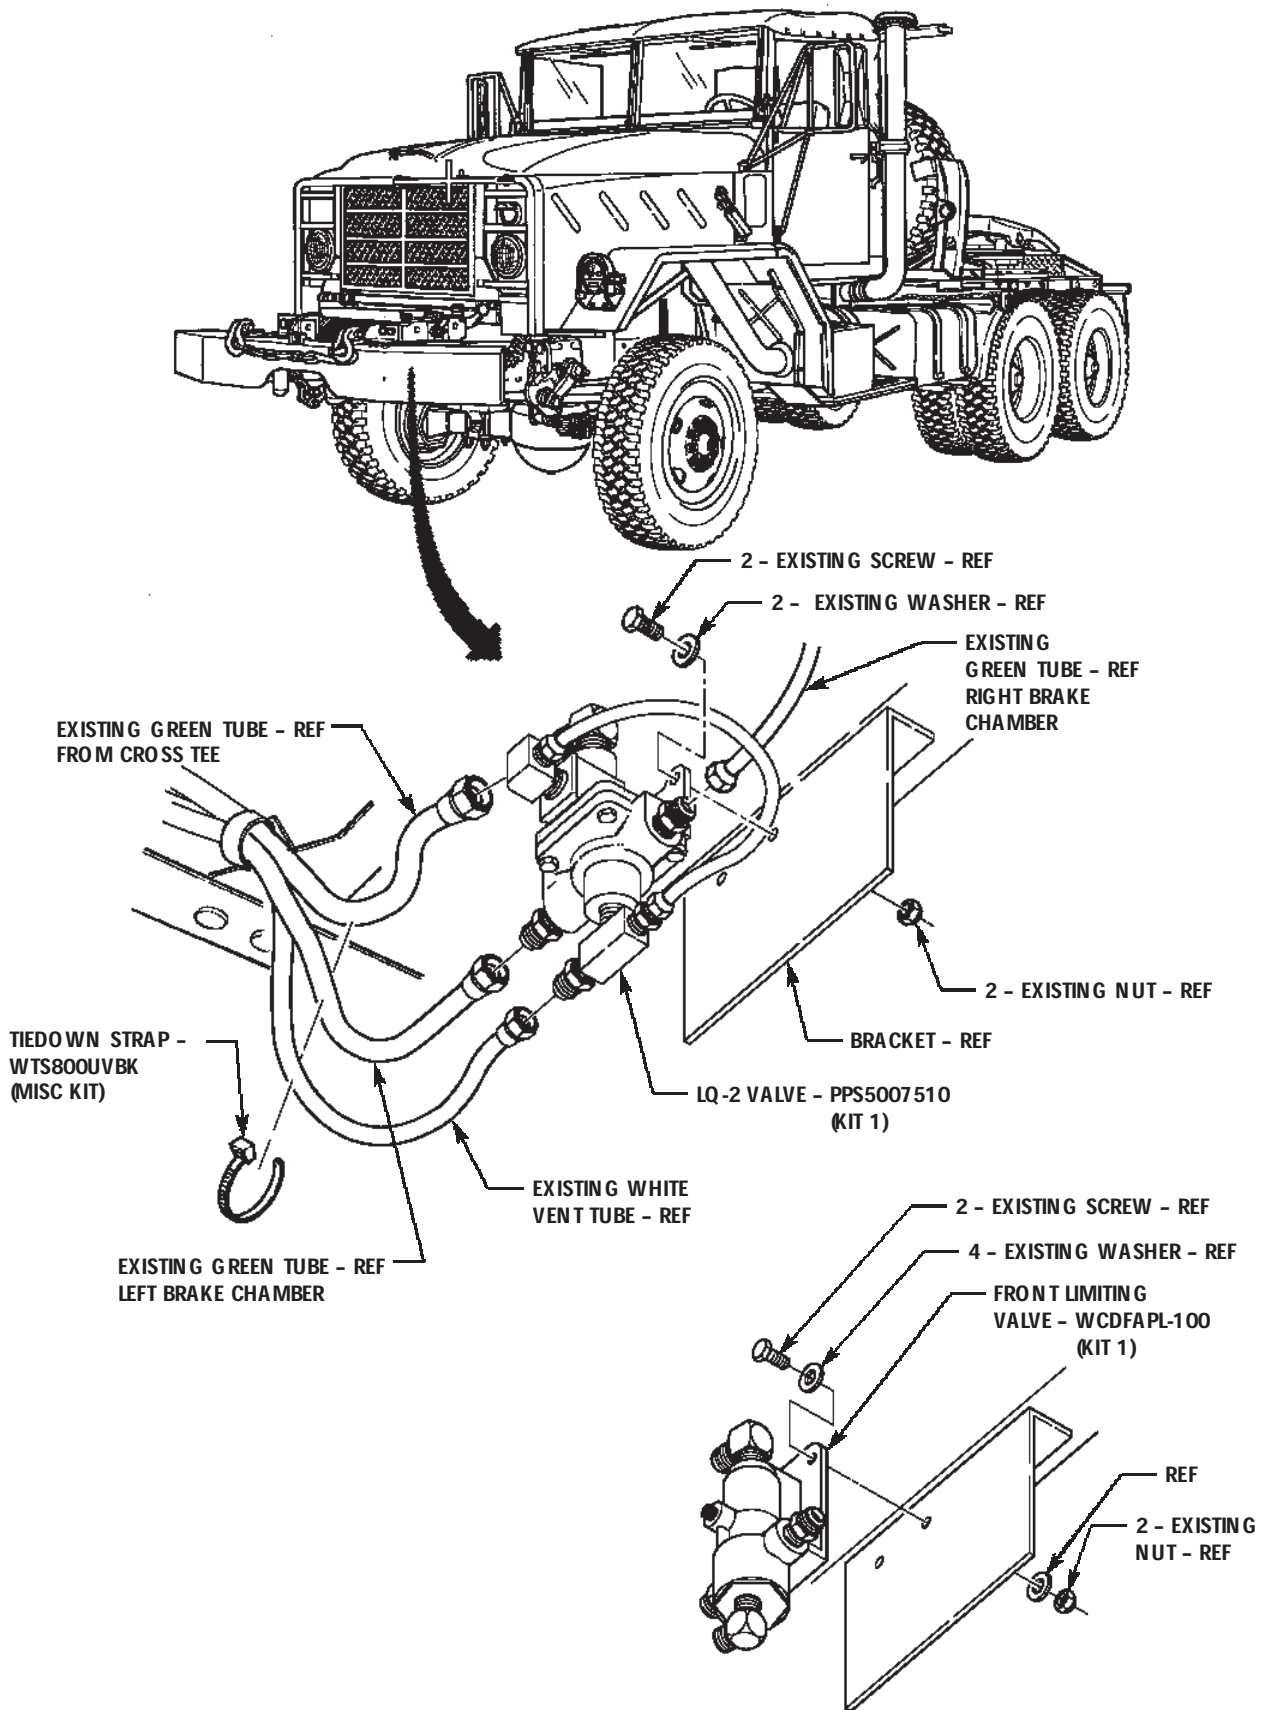

FIGURE 24
Kit 1 will be supplied with either a LQ-2 valve or a front limiting valve as shown in figure 24.
- (62) Connect four existing tubes to PPS5007510 LQ-2 or WCDFAPL-100 valve as shown in figure 24.
- (63) Install LQ-2 valve (PPS5007510) or front limiting valve (WCDFAPL-100) on existing bracket with two screws, washers, and nuts as shown in figure 24. Install WTS800UVBK tiedown straps as necessary as shown in figure 24.